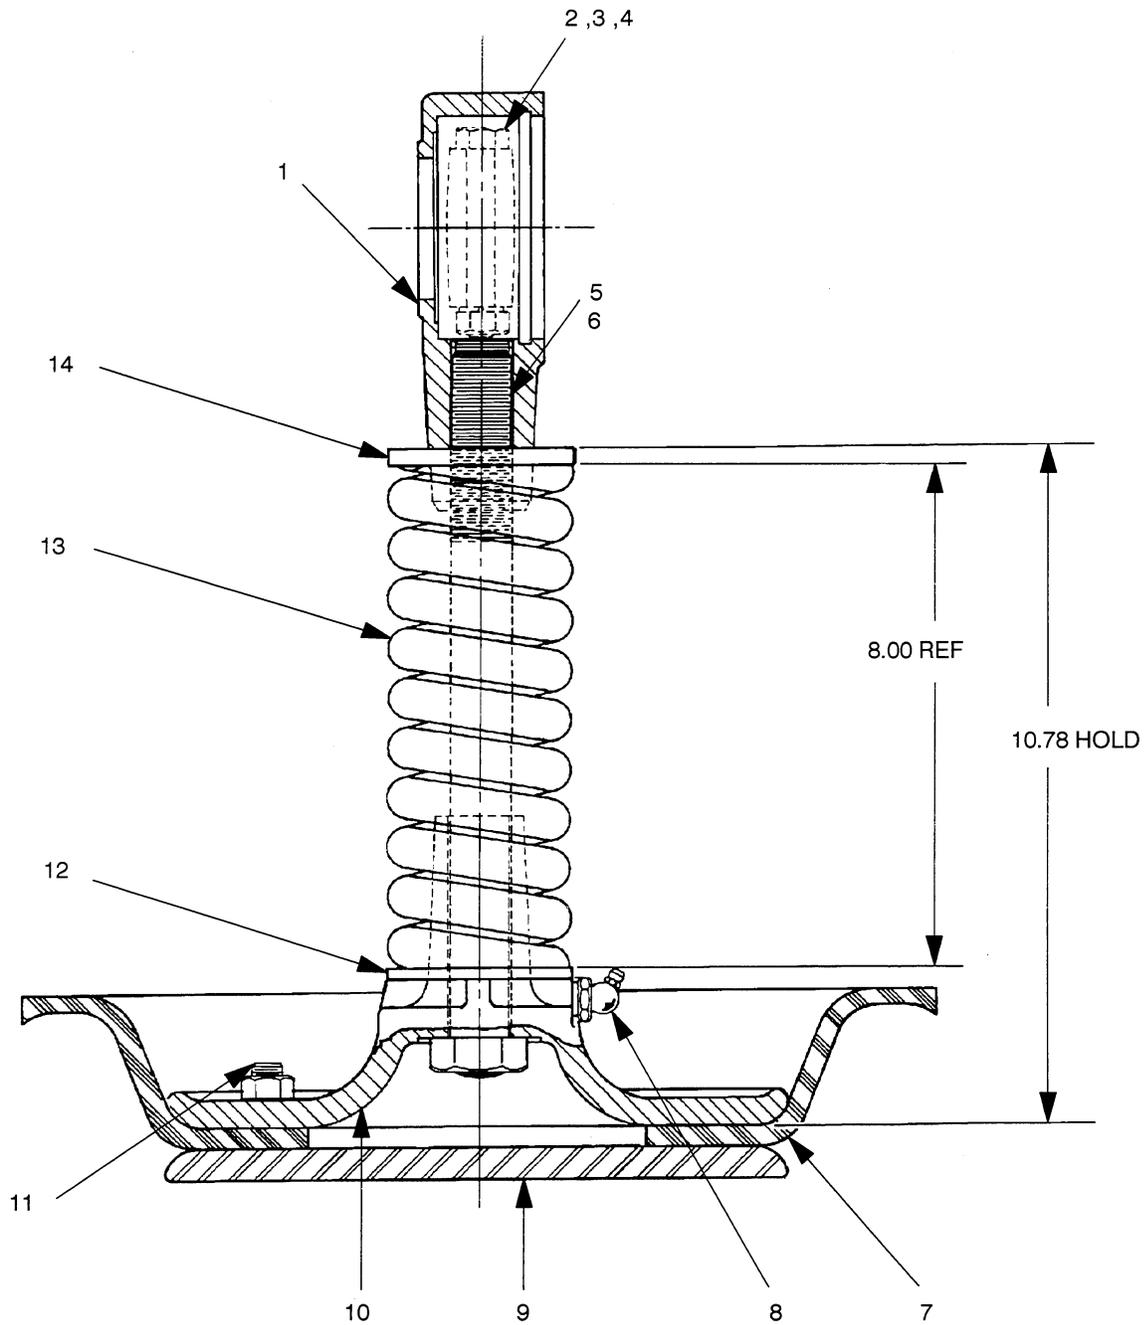

Figure 4. 6959 Plunger Rod Assembly
To remove the diaphragm (7, Figure 4), disengage the hardware (22, 23, and 26) and remove the diaphragm pot assembly (24). Inspect the diaphragm ring (25) for wear or damage. If replacement is required, the gearbox assembly (1) must be removed.
To remove the diaphragm (7, Figure 4), disengage the hardware (40, 41, and 44) and remove the diaphragm pot assembly (42). Inspect the diaphragm ring (43) for wear or damage. If replacement is required, the gearbox assembly (17) must be removed.
(Figure 4)